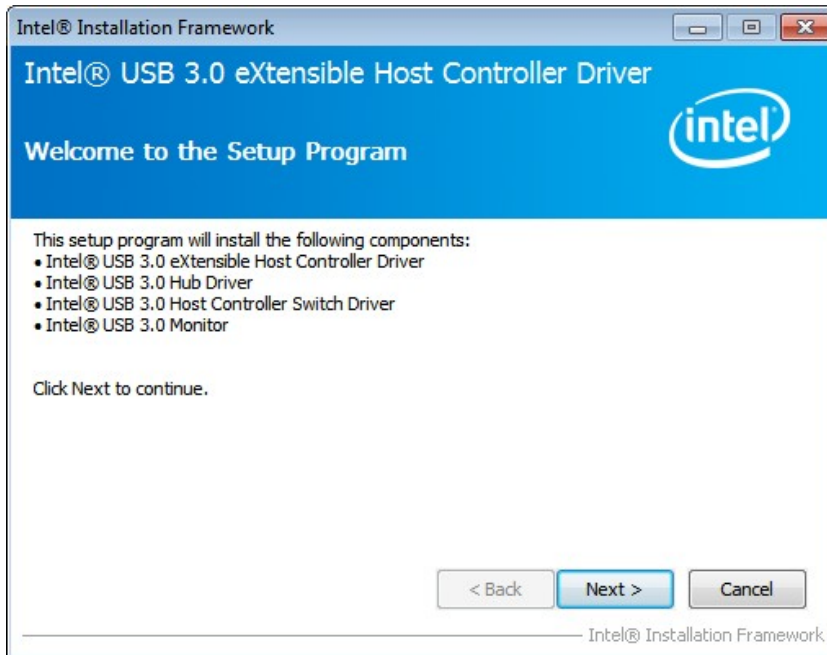

Figure 6-22: USB 3.0 Driver Welcome Screen
Step 4: A **Welcome Screen** appears (**Figure 6-22**). Click **Next** to continue.